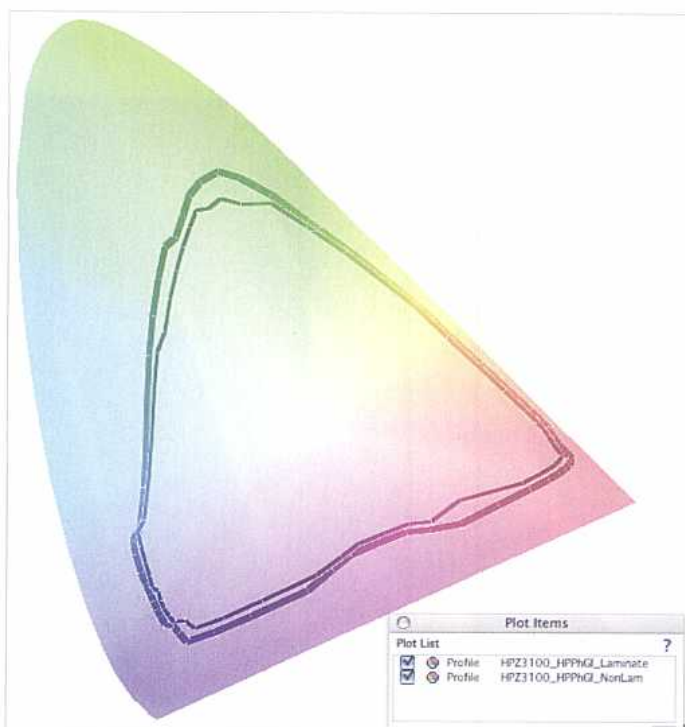

Figure 5
- 7) Check the color gamut of the two profiles (laminated and un-laminated) to see if the laminate has reduced or altered the color gamut of the media (see **Figure 5**).